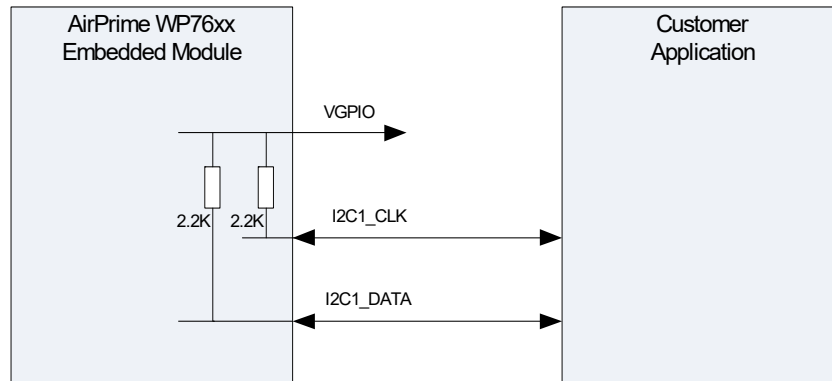

Figure 4-5: Example of I2C Bus Application
- I2C signals are implemented internally as open drain outputs (per the I2C specification) with 2.2 kΩ pull-up resistors to VGPI0 (see Figure 4-5 on page 103).